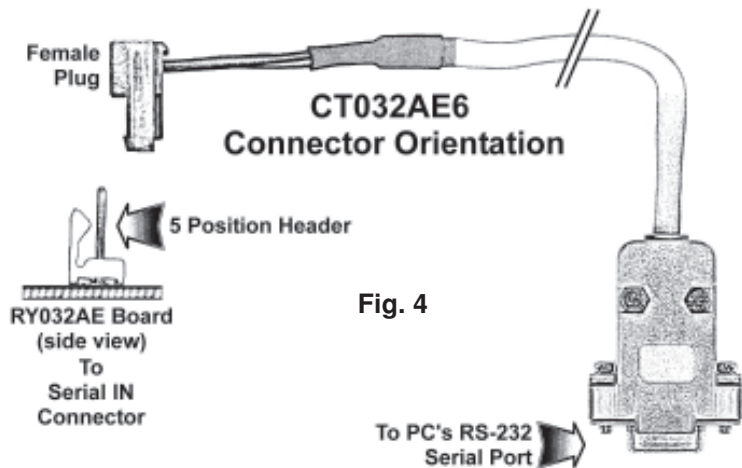

Fig. 4
1. Connect the model# CT032AE6 interface cable from the PC's RS-232 Serial Output, to the **Serial IN** connector on the 1st RY032AE board, as per Fig. 4 on page 4. **NOTE: if your PC does not have a conventional 9-pin type serial connector, you can use an available USB port, by plugging the CT032AE6 cable into a USB to Serial Adapter (equivalent to BAFO technologies model# BF-810).** This RY032AE board will be considered Board #1 for programming purposes. Do not force the plug onto the connector, and make sure it is oriented and aligned as shown on the drawing. **NOTE: the model# CT032AE6 cable is a basic 6 foot long cable. You may add additional extension cables (to the 9-pin DIN Female connector end only), as needed, to a MAXIMUM of 200 feet in total. Do not cut or splice the CT032AE6 cable as it has integrated electronics to provide all of the necessary RS-232 level translation**
2. If more than one (1) RY032AE relay board is used, you must connect a model# CT032AEJ jumper cable from the **Serial Out** connector from the 1st RY032AE board to the **Serial IN** connector on the next RY032AE, continuing to add jumpers as additional RY-032AE boards are required. Each CT032AEJ jumper cable is only 12 inches long, so make sure the multiple RY032AE boards are as close together as feasible for proper wiring connections, while still allowing room for wiring the 32 output relay terminals.
4. Connect one wire (COMMON WIRE) to either of the Common terminals marked **COMM** on the 1st RY032AE board and jump this wire to either of the Common terminals marked **COMM** on the next RY032AE board, and continue until all of the **COMM** terminals on all of the RY032AE boards are jumpered together. You may use either of the screw terminals marked **COMM** on each RY032AE board, as these are internally connected together on the board circuitry. We provide two (2) **COMM** screw terminals to make it easy for you to connect multiples COMMON wires on each board. Connect this 'COMMON' to the wire that would normally connect to one side of all of the pushbuttons on a typical intercom or video-intercom entry door station.
5. Once all of the RY032AE boards are connected together, you need to set the 'DIP' switches on each board to the Board# you wish to use to identify each board. See Fig. 2 on page 3 for programming the 'DIP' switches on each RY032AE board. CAREFULLY, slide the 'DIP' switches ON or OFF as indicated on the chart (Fig. 4) shown on Page 3, using a small rubber or plastic (non-conductive) tool. You can install a maximum of 16 of the RY032AE boards on each AlphaEntry™ system, for a total maximum capacity of 512 relays. In order for the AlphaEntry™ software to properly signal an individual relay to activate, you must individually number the RY032AE boards (from 1 to 16). Since each relay is already numbered 1 to 32 on each RY032AE board, to trigger a specific relay to activate you need to know the Board# (1-16) and the Relay# (1-32) and set that information into the AlphaEntry™ residents database. **NOTE: EACH RY032AE BOARD MUST HAVE A UNIQUE**
6. All of the 32 relays on each board come set from the factory as 'Normally Open' (NO). If you wish to change any of them to 'Normally Closed' (NC) operation, you can move the small Black jumper associated for that relay from the NO position to the NC position by moving it over one pin. **NOTE: SINCE ALL 32 OF THE RELAYS ON EACH RY032AE SHARE A SINGLE 'COMMON' TERMINAL, ALL 32 CONNECTIONS SHOULD BE OF THE SAME TYPE. FOR EXAMPLE, YOU SHOULD NOT MIX A 'TONE' TYPE INTERCOM SYSTEM WITH A 'BUZZER' TYPE SYSTEM ON THE SAME RY032AE BOARD.**